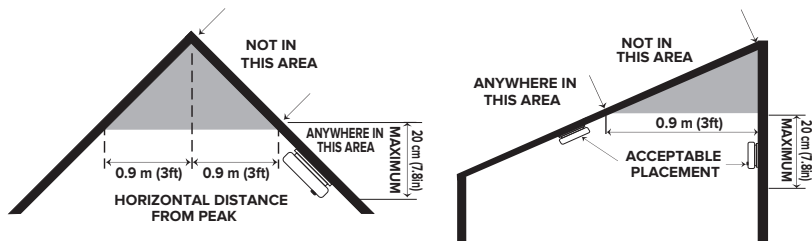

Figure 6-C
- When mounting the alarm on the wall, use an inside wall with the top edge of the alarm at a minimum of 10 cm (4") and a maximum of 30.5 cm (12") below the ceiling (Figure 6-A).